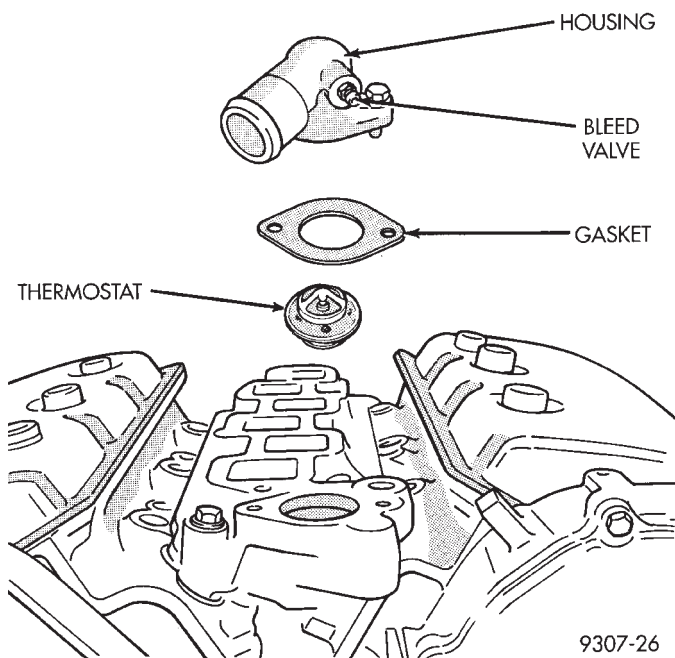

Fig. 5 Thermostat, Housing —3.3/3.5L Engines
The engine thermostat is located in a water box, formed in the front of the intake manifold (Fig. 5). This thermostat has an air bleed located in the thermostat flange.
- (1) Drain cooling system down to thermostat level or below.
- (2) Remove thermostat housing bolts and housing (Fig. 5).
- (3) Remove thermostat, discard gasket and clean both gasket sealing surfaces.
- (1) Install thermostat into recess provided in the intake manifold (Fig. 5).
- (2) Place a new gasket (dipped in water) on the water box surface, center thermostat into opening in the intake manifold.
- (3) Place housing over gasket and thermostat, Bolt housing to intake manifold, torque bolts to 28 N•m (250 in. lbs.) 3.3L engine and 28 N•m (250 in. lbs.) 3.5L engine.
- (4) Refill cooling system (see **Refilling System**).